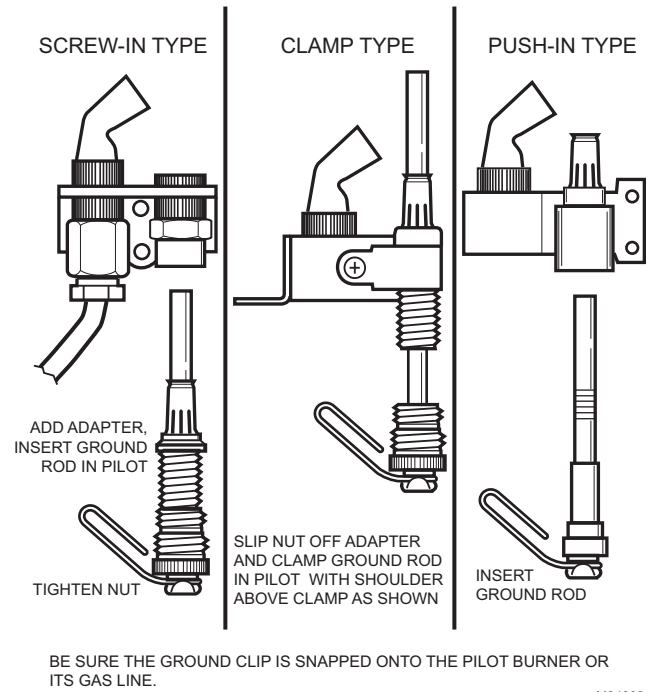

Fig. 8. Mount ground rod on pilot burner.
1. Install the ground rod. See Fig. 8.
- Insert the ground rod in place of the thermocouple on the pilot burner. Push the ground rod all the way up and fasten as shown in Fig. 8.